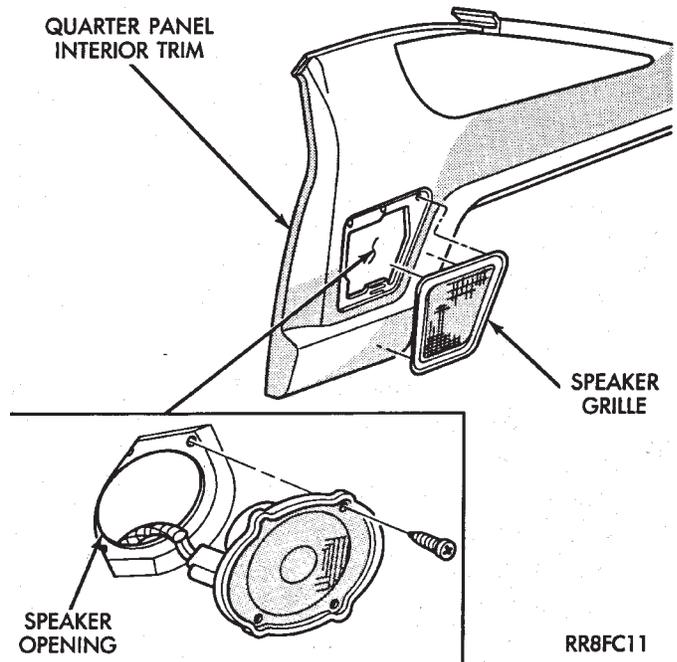

Fig. 25 Rear Speaker—AG Body
(1) Remove speaker grille by pulling away from quarter trim panel to disengage retaining clips (Fig. 25).
(2) Remove four speaker retaining screws.
(3) Pull speaker away from body and disconnect wiring.
(4) For installation reverse above procedures.